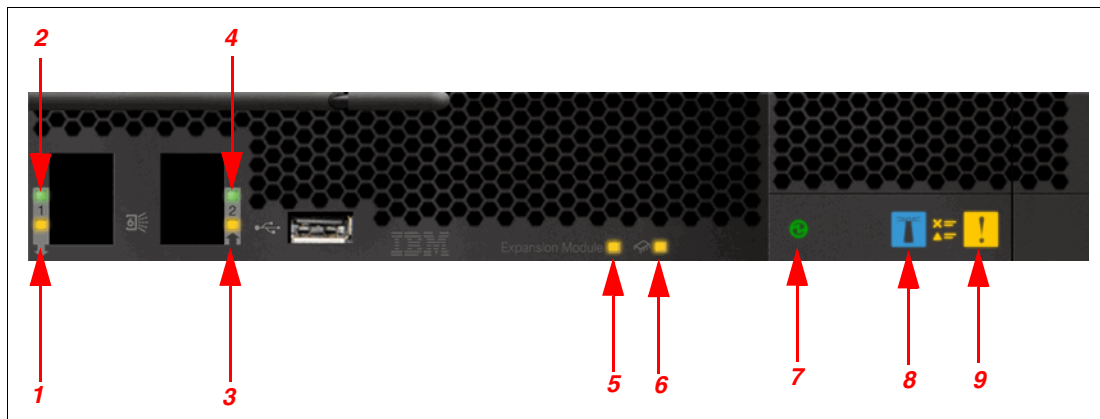

Figure 13-3 Expansion enclosure LEDs layout
IBM Flex System V7000 expansion enclosure includes two expansion canisters that are located in the rear of the expansion enclosure. The expansion canister has no controls and does not include battery unit. Figure 13-3 and Table 13-7 show expansion canister LEDs you can use to determine the system state and appropriate actions to take to resolve the issues.
1. Start by considering the states of the power LED **7** for each 4939 expansion canister, as shown in Figure 13-3 on page 579 and Table 13-9 here. Continue to troubleshoot the canister until the power LED is ON.